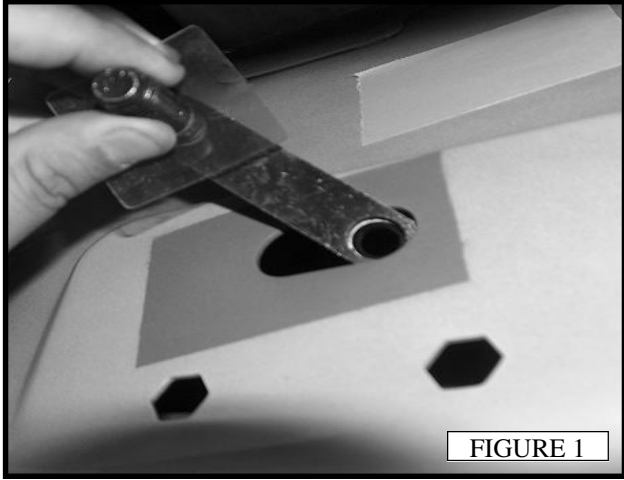

FIGURE 1
- Starting at the passenger side, remove the tape that covers the front running board holes. This is located at the inner rocker panel behind the front tire. (FIGURE 1)
- Partially thread (1) M11 plastic retainer to (1) stud + nut plate. Then place the stud plate through the slot with the two smaller holes below. Tighten the plastic retainer so the stud plate is secure. (FIGURE 1)